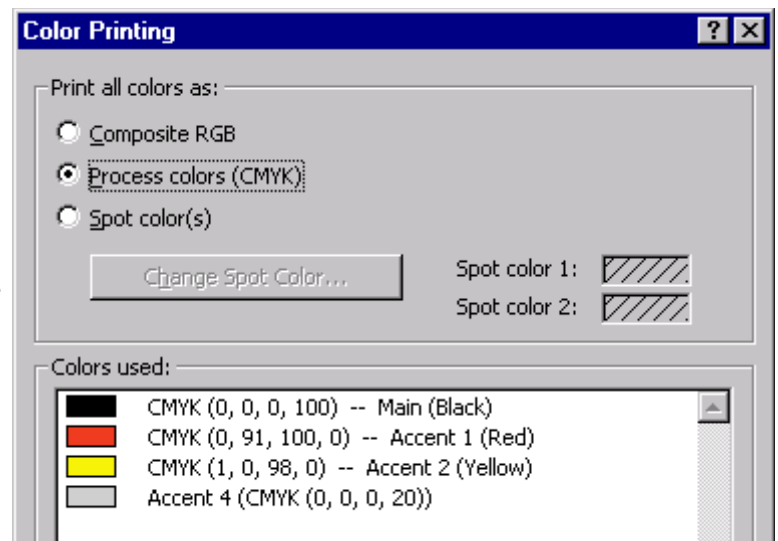

Figure 3 - Switching to Process color mode
- In the **Color Printing** dialog, click **Process Colors (CMYK)** (Figure 3).